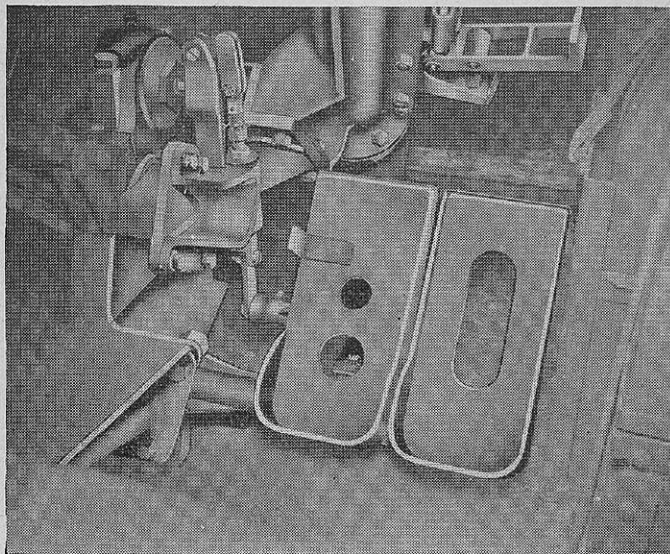

FIGURE 9.—Firing mechanism, combination gun mount M42.
■ 22. FIRING MECHANISM (fig. 9).—a. The vertical gun pointer is provided with two foot pedals, the left pedal acting as a control for firing the 37-mm gun. This foot pedal is provided with a latch lever which is located to the left of the pedal. The gun pointer fires the weapon by disengaging the latch
① Rear of driver's cab.
② Instrument panels and controls.